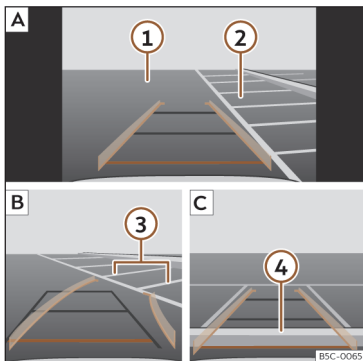

Fig. 149 Display on the infotainment system screen: parking with the reverse assistant.
Key to the >>> **Fig. 149:**
- Stop the vehicle in front of the parking space >>> **Fig. 149 2 A**.